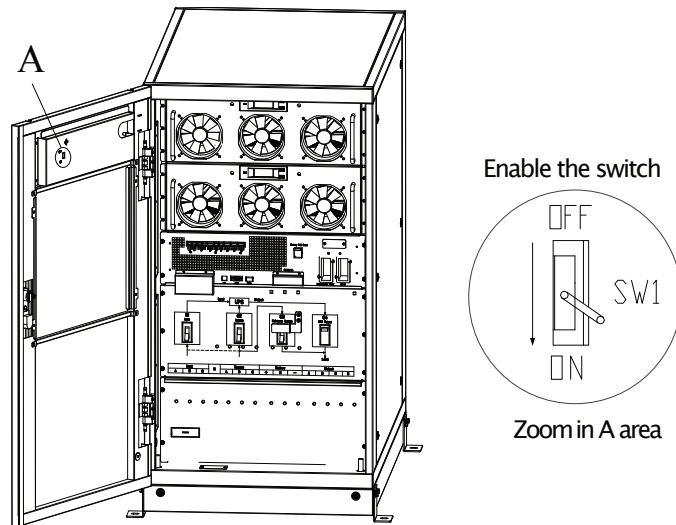

Figure 4-2 Enable the switch
- 2) Press and hold the BYP key on the operator control panel for longer than two seconds and the system transfers to bypass mode. This needs to enable the switch behind the front door. See Figure4-2.